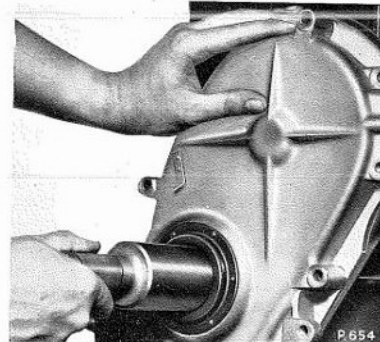

Fig. B.25. Centralising the timing cover, using Churchill Tool R.G.21
2. Centralise the cover over the crankshaft, using Churchill Tool R.G.21 (see Fig. B.25), before tightening the securing nuts and bolts in diagonal sequence.